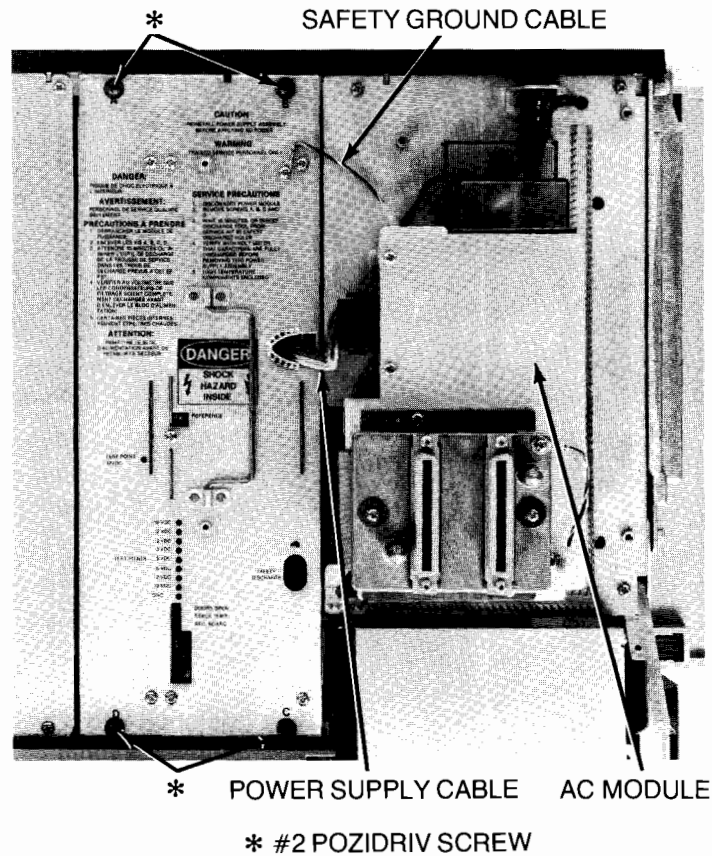

Figure 4-58. Releasing Power Supply Assembly
7. Disconnect power supply cable from ac module (Figure 4-58).
8. Disconnect safety ground cable from lug on ac module (Figure 4-58).
9. Loosen four #2 Pozidriv captive screws that attach power supply to computer (Figure 4-58).